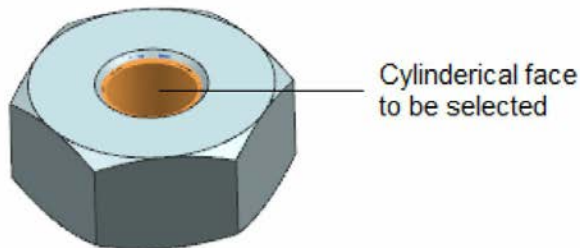
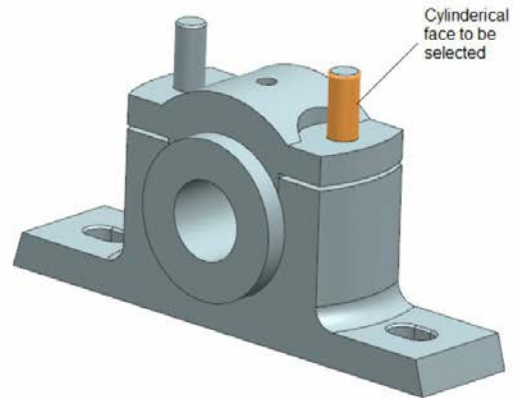

Figure 8-98 Cylindrical face to be selected from the Nut
Figure 8-99 Cylindrical face to be selected from Bolt
- g. Assemble the Nuts by using the required assembly constraints, refer to Figures 8-98 through 8-102.
5. Select the cylindrical face of the Nut, refer to Figure 8-98. Next, select the cylindrical face of the Bolt, refer to Figure 8-99.